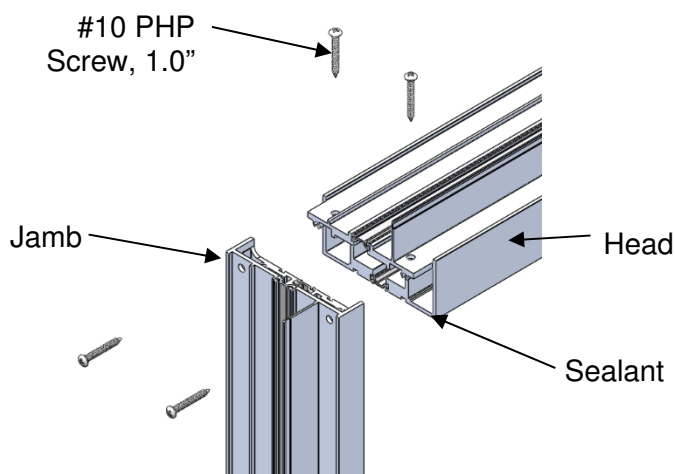

Figure 5:
- Apply a compatible sealant to the corners of the frame. Assemble the frame with screws provided (Figure 5).